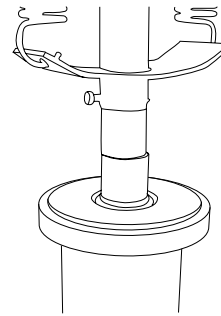

Figure 15
2. Place a larger sized pipe than the bearing underneath the bearing, and remove the bearing with a press [Figure 15].